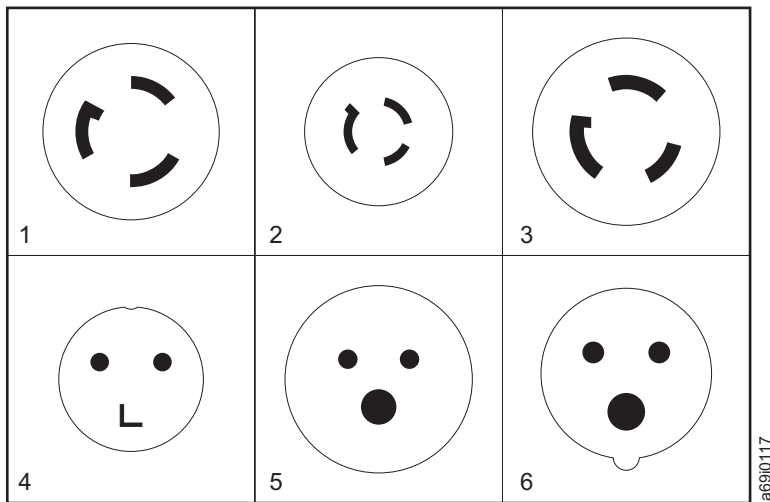

Figure 24. Types of receptacles for power cords used by Models L32 and D32 of the 3584 Tape Library
The appropriate power cord for the 3584 Tape Library is attached at the factory (based on the destination code of your country or region). Chicago, Illinois (U.S.A.) requires a 1.8-m (.07-in.) power cord (feature code 9986). Power cords used in the United States and Canada are listed by the Underwriter's Laboratories (UL) and certified by the Canadian Standards Association (CSA). Table 35 on page 99 lists the 200 to 240 V ac power cords and Table 36 on page 100 lists the 100 to 127 V ac power cords to use with the library (the term "power cord" refers to the cable that connects the library to the receptacle). Refer to Figure 24 on page 100 and match the number that is beside each receptacle to the receptacle number listed in the tables.
Refer to Figure 24 and match the number that is beside each receptacle to the number in each table.